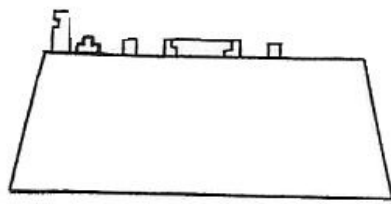

Fig. 1
- 1 Insert the " O RING " seal in the bowl verifying that it will be correctly positioned on its shape (see Fig. 1)